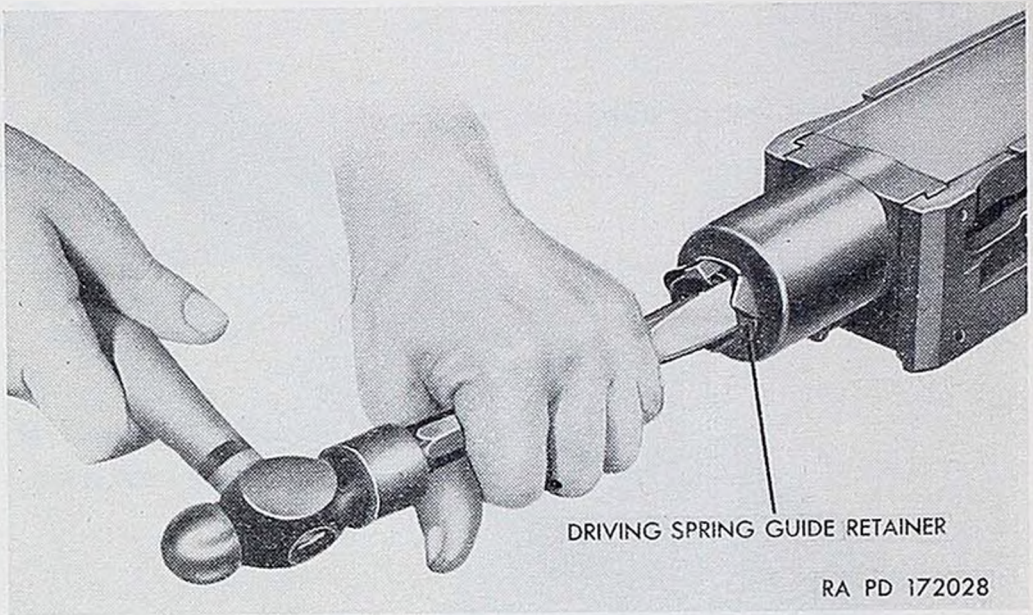

Figure 78. Disengaging the driving spring guide retainer from the guide.
a. Use a blunt cold chisel to straighten out bent portions of driving spring guide retainer (fig. 78). Unscrew guide plunger with rear